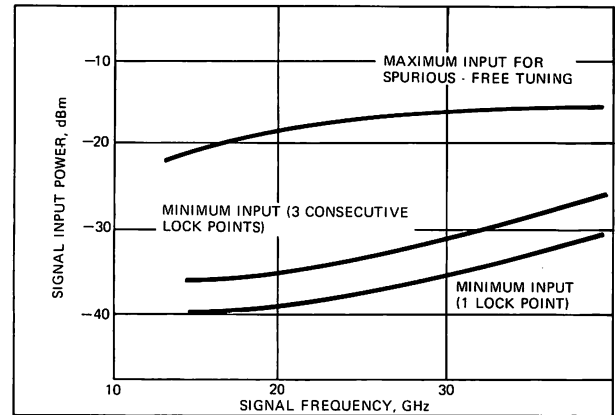

Figure 2. Typical Sensitivity Using Constant Local Oscillator Power (Between +5 and +10 dBm)
The local oscillator power level influences, to a large extent, the magnitude of the mixer output and therefore the system sensitivity. In obtaining the sensitivity curves of Figure 2, an optimum power level on a broad band basis was used. For very weak input signals, however, adjusting the local oscillator power level while tuning for phase-lock, will increase system sensitivity even further.
The minimum input curve of Figure 2 was established on the basis of at least 3 consecutive lock points being available across the entire local oscillator band. Two of these lock frequencies find N, the subharmonic of the unknown input signal, and the third checks the spacing between these two. When the input frequency is approximately known, only one lock point is required; then, a more practical sensitivity would be the absolute minimum curve, where at least one lock point exists. Again, it should be noted that the curves were established on a broad band basis, and significant improvement in sensitivity can be expected if the local oscillator power level is adjusted while tuning for phase-lock.
To avoid mixer damage, keep the input signal below 1 mW. To avoid phase-lock on spurious signals, keep input power below the maximum input curve of Figure 2. Excessive input power can also bias the mixer out of its operating range.
**INPUT SENSITIVITY:** Better than -30 dBm at 12 GHz, -20 dBm at 40 GHz (see Figure 2 for typical sensitivity).